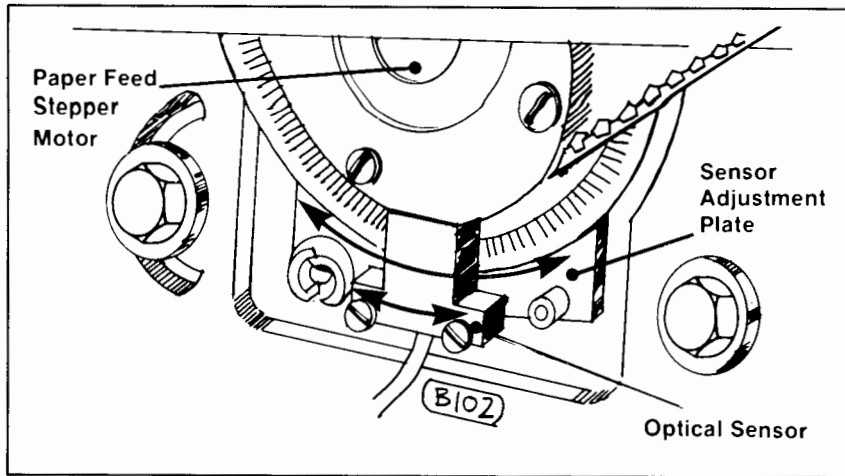

Figure 6-8. Dual Strobe Sensor Assembly
This section is subdivided into three (3) subsections. Procedure A and B are adjustments that use internal routines. The part number of the CPU PCA determines which adjustment to use (see Table 6-1 next page). The Scope section applies to **all** CPU PCA types and is used as an alternative to the internal routines. Figures 6-8 and 6-9 show the PF sensor component location/names.
4. If necessary, gently rotate the sensor adjustment plate (Figure 6-8) to obtain smooth operation.
6. If LED-3 is not lit, loosen the screws holding the optical sensor to its mounting plate (See Figure 6-8), and gently rotate the sensor body until LED-3 lights and stays lit.
2. Loosen the sensor mounting plate screws (See Figure 6-8), and move the assembly until the speed of the system causes the LEDs to change.
2. Place the RIPPLE/SOLID switch (S2) to RIPPLE= (UP).
4. If necessary, move the sensor adjustment plate (Figure 6-8) to obtain a smooth and constant speed operation.
6. If LEDs 2,3 or 4 are not flickering, loosen the screws holding the optical sensor to its mounting plate (See Figure 6-8), and gently rotate the sensor body until any one or combination flicker.
2. Loosen the sensor mounting plate screws (See Figure 6-8) and move the assembly until the speed of the system causes the LEDs to change.